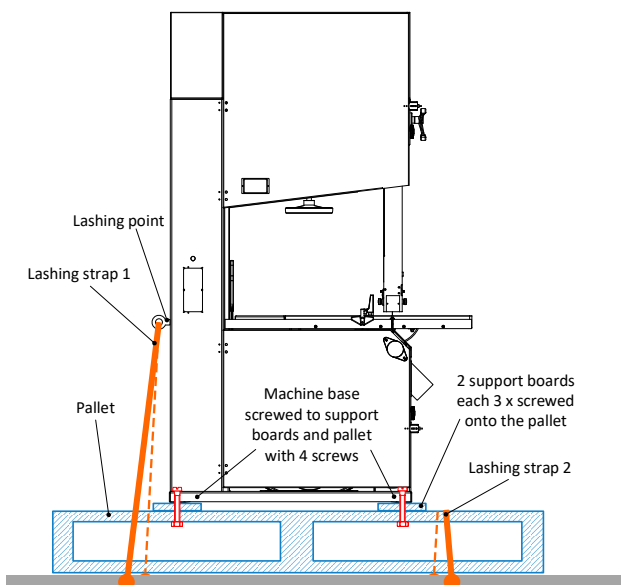

Figure 10: Lashing models RAPID 400 / 500 / 600
- For this, there is a lashing point for lashing strap 1 on the left machine column (see ⇒ Figure 10). The pallet is directly lashed with lashing strap 2.